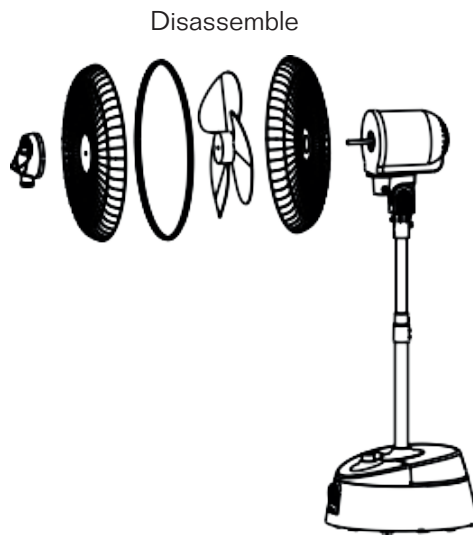

Figure 2
- Disassemble the fan as demonstrated in Figure 2;